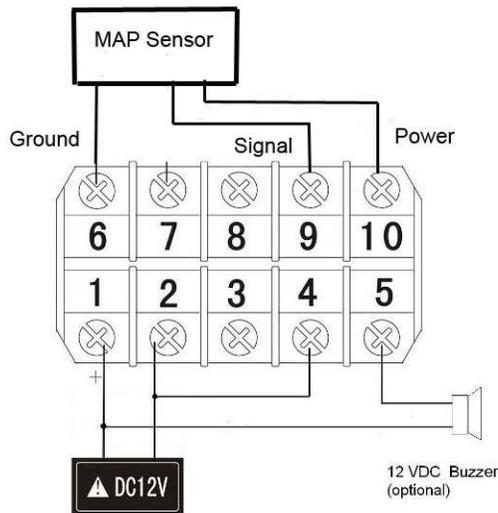

Fig 1. Wiring diagram for SYL-1813 automobile multimeter.
1) Wiring the sensor as shown in Fig 1. Connect power lead (brown) to terminal 10, signal lead (blue) to terminal 9, and ground lead (yellow with green stripe) to terminal 6. The 12V DC buzzer is optional. (**Please note:** for older version of Auber 303, power lead is red, signal lead is green, and ground lead is black).